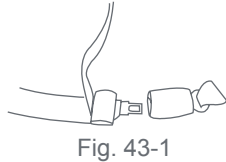

Fig. 43-1
- A lap/shoulder combination belt with a locking buckle is tightened by pulling upward on the shoulder portion of the seat belt while pushing down hard on the Safety Seat or Base. If you experience difficulty tightening the seat belt, unbuckle the seat belt, tighten the seat belt a small amount and re-buckle the seat belt. Repeat this procedure until the seat belt is very tight around the Safety Seat (Fig. 43-1).